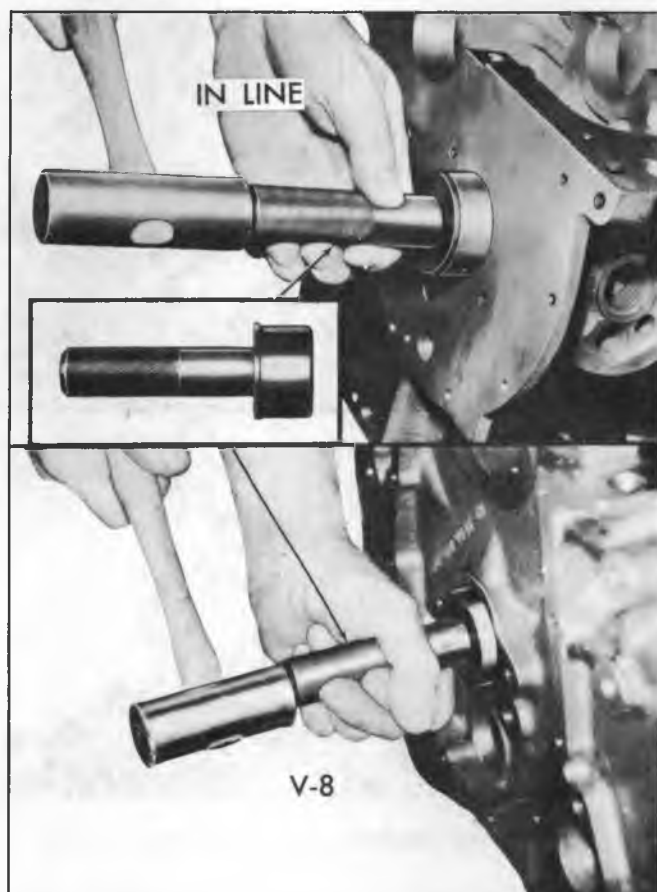

Fig. 69—Replacing Camshaft Front Bearing
6. Assemble remover and installer tool on driver handle and remove camshaft front and rear bearings by driving towards center of cylinder block (fig. 69).
1. Assemble remover and installer tool on driver handle and install camshaft front and rear bearings by driving towards center of cylinder block (fig. 69).